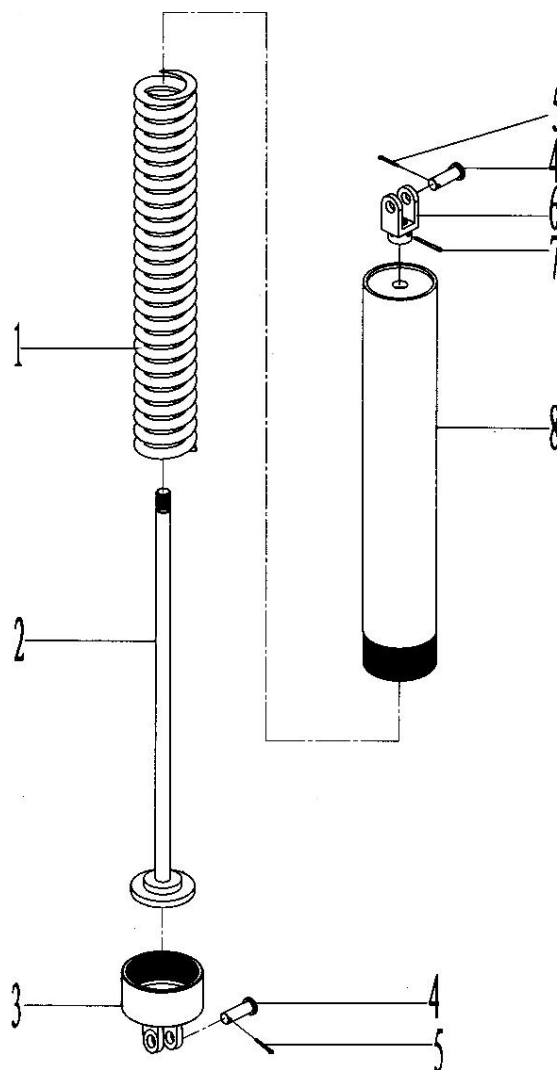

Fig.7-27
27. Spring lift bucket assembly (Fig7-27, Table27)